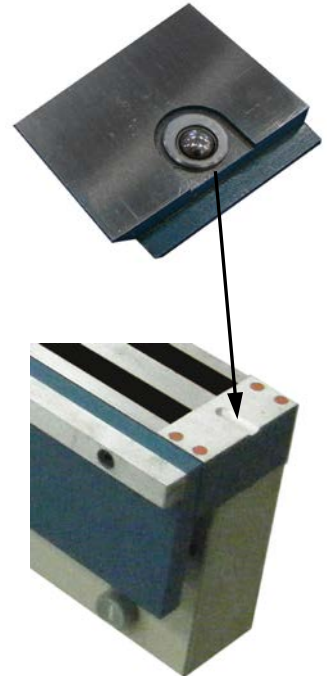

figure 6
- 1) If you are using the clamp bars with the lifting balls, make sure they are both properly seated in the pockets of the workbench. (fig. 6)